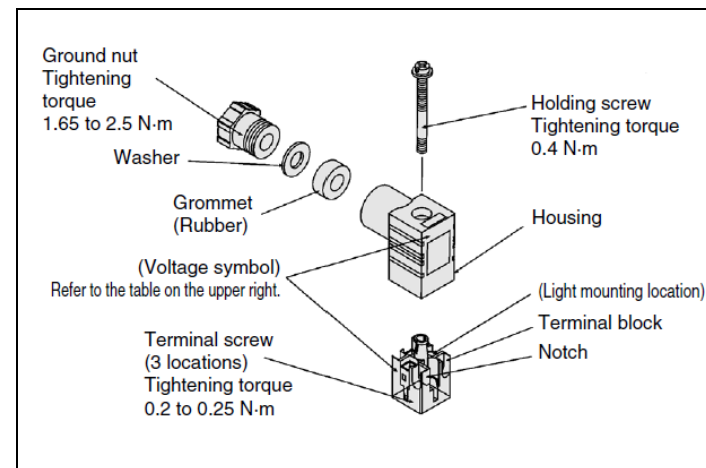

Figure 3
3.12 How to Install DIN Terminal – see Figure 3